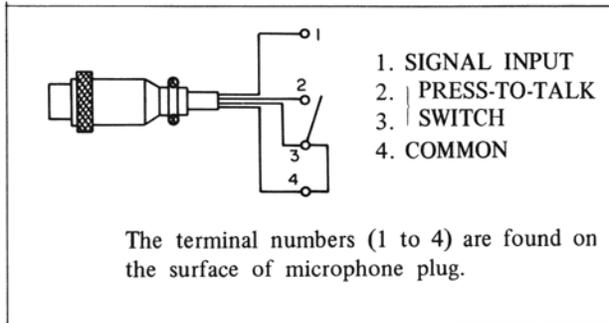

Figure 3 CONNECTION OF MICROPHONE PLUG
- 4- As to the alignment of the modulation circuit, be sure to use the microphone plug shown in Figure 3 to be connected to it.